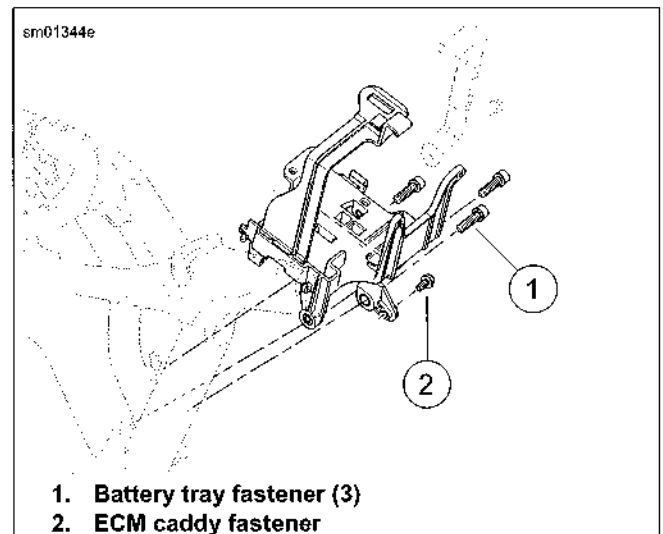

Figure 6-18. Battery Tray
3. See Figure 6-18. Install the battery tray fasteners (1). Tighten to 96-156 in-lbs (10.8-17.6 Nm).
4. Install the fastener (2) securing the tray to the ECM caddy. Tighten to 72-96 in-lbs (8.1-10.8 Nm).